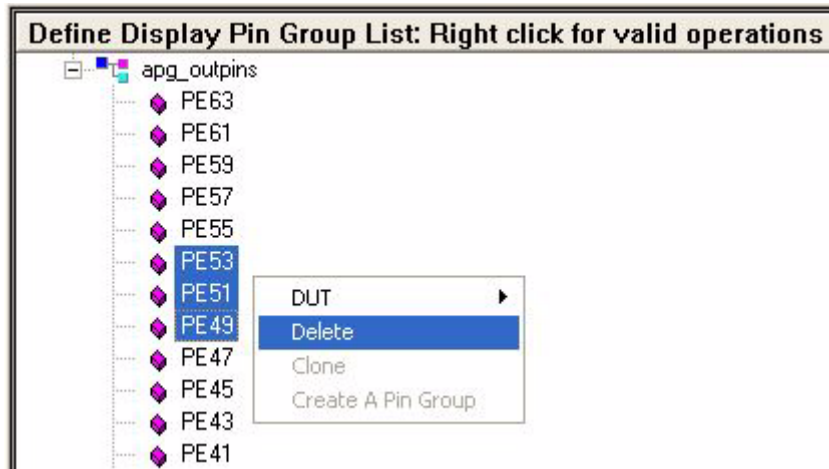

Figure 6-64. Deleting Pins from the `pinset1` Display Group
- 6** You can also filter out pins you do not want by first selecting them, right-clicking to display a pop-up menu, and then selecting the **Delete** command in the menu (Figure 6-64).